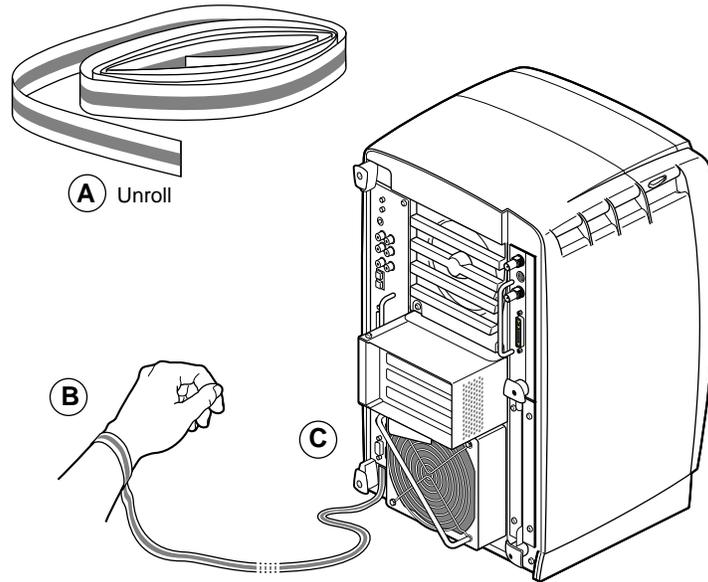

Figure 4-5 Attaching the Wrist Strap to the Chassis
1. Unroll the first two folds of the band (see A in Figure 4-5).
2. Wrap the exposed adhesive side firmly around your wrist (B), unroll the rest of the band, then peel the liner from the copper foil at the opposite end.
3. Attach the copper foil to any exposed electrical ground, such as a metal part of the workstation (C).